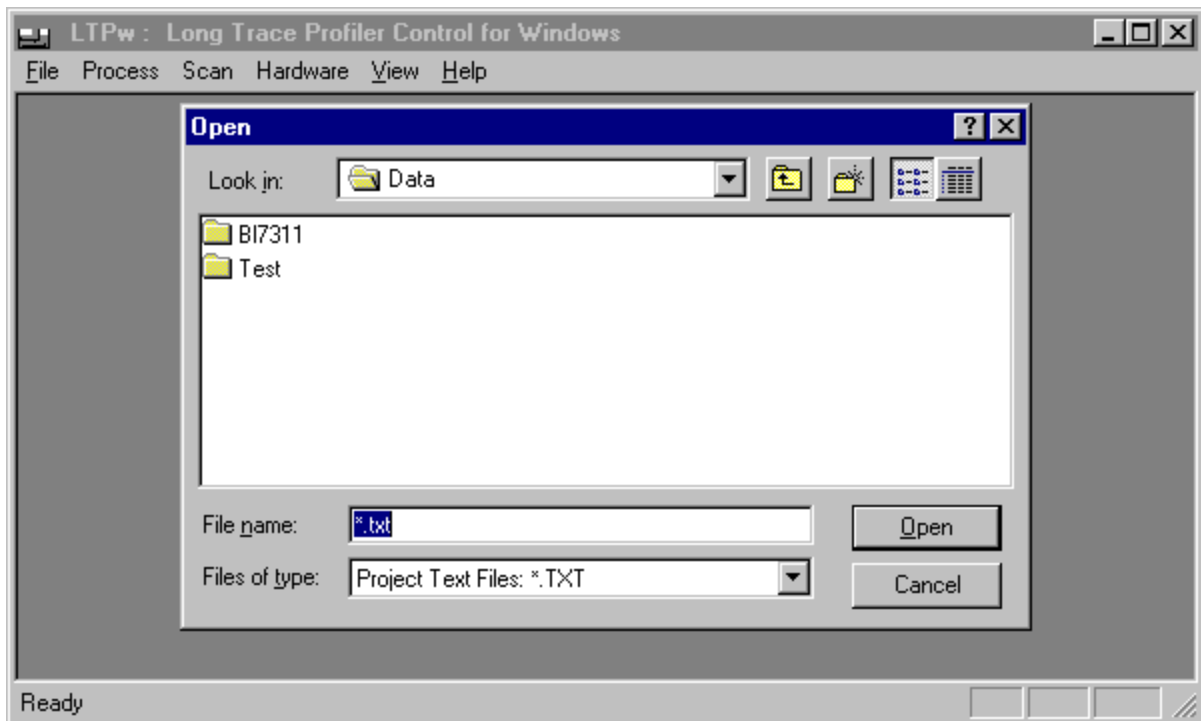
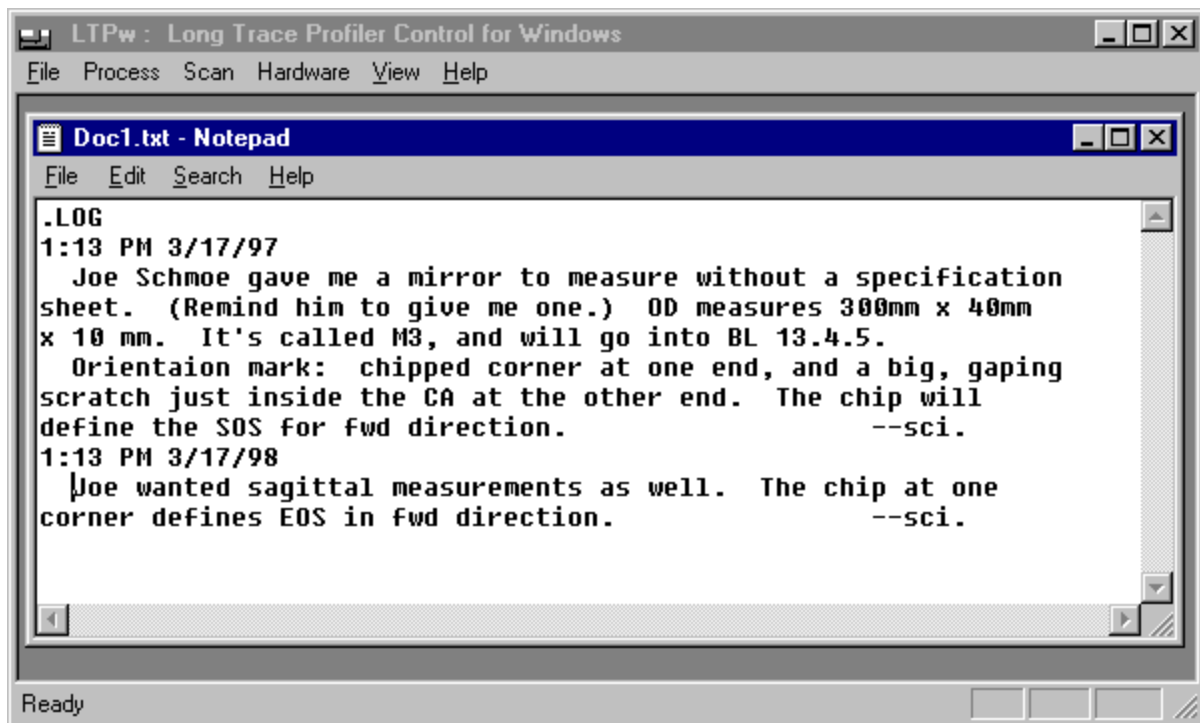

Figure 2.1 Opening the project folder.
Figure 2.2 Documenting the project.
2.6 Turn on computer, monitor, and printer. After the computer has booted, click on "Start", "Programs", "LTPw", "LTPw". The LTPw program starts, and prompts you to choose a project folder where the Notepad file resides (Figure 2.1). Notepad is the standard Windows 95 text editor, and is used automatically for LTPw text files in the project folders. Notepad is expected to be in "C:\Windows\". If the project folder exists for the mirror you will measure, then open the \* .TXT file in that folder, and append any useful information to the document, including today's date and your initials (Figure 2.2). If the project folder does not yet exist, then click on "Create new folder" (it's an icon) in the File Open dialog box. Give a short, descriptive name to the folder, and likewise for the text file. After saving the file, LTPw is ready to run.